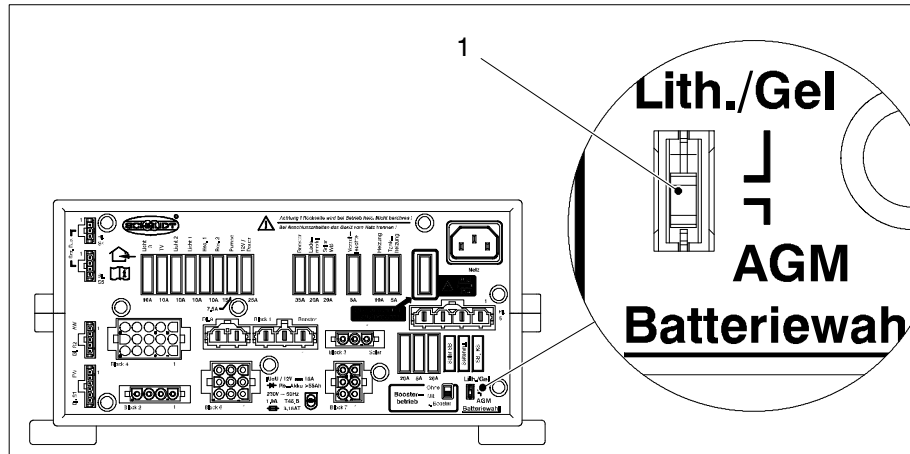

Fig. 1 Battery selector switch
- ▶ Move the battery selector switch (Fig. 1, Pos. 1) to the correct position using a thin object (such as a ballpoint pen):